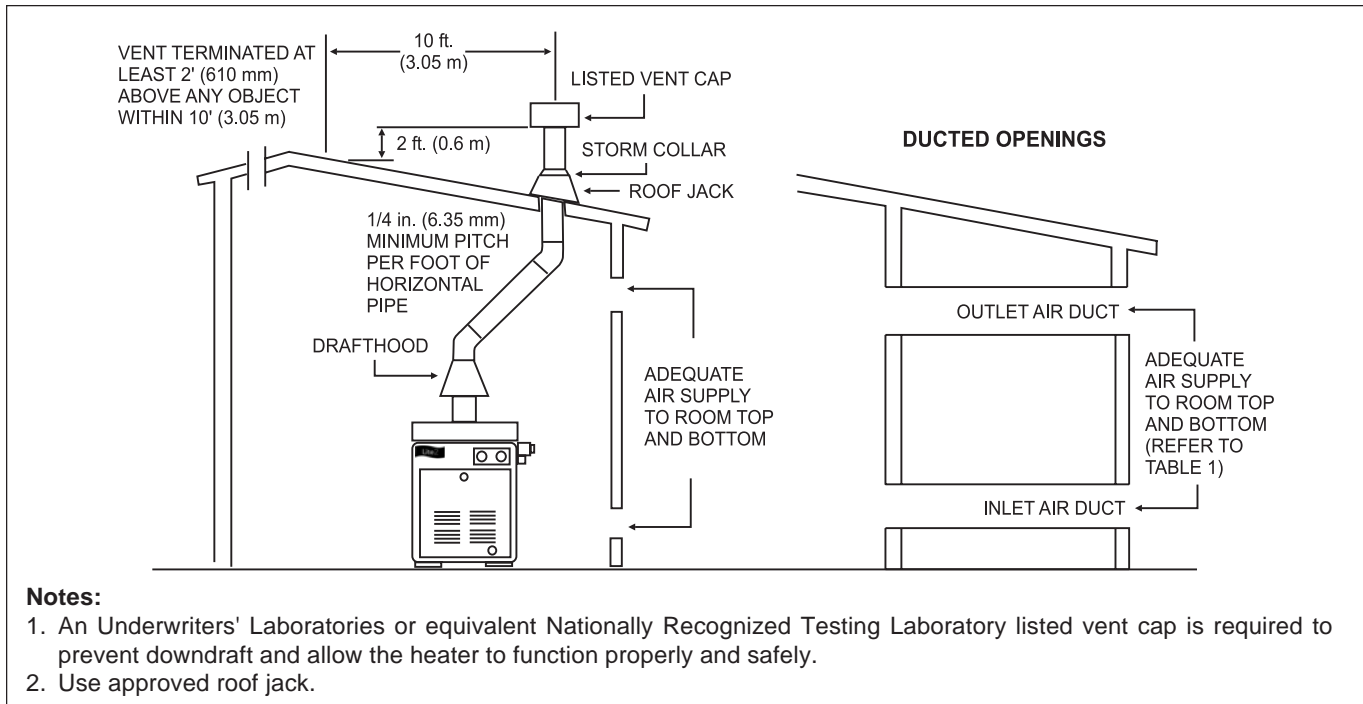

Figure 5. Indoor Installation Venting (USA), or Outdoor Shelter (Canada).
In general, these requirements specify that the room in which a heater is installed should be provided with two permanent air supply openings; one within 12 inches (305mm) of the ceiling, the other within 12 inches (305mm) of the floor. All indoor installations must have openings to outside air for combustion, ventilation, and dilution of flue gases from inside the building (see Figure 5 and Table 3). Water Pik Technologies does not recommend indoor installations that do not provide combustion air from outside the building.
Outside Air Supply: When combustion air is supplied directly through an outside wall, each opening should have a minimum free area of one square inch per 4,000 BTU/h (1.2kW) input of the total input rating of all appliances in the enclosed area. If air is provided through horizontal ducts, each opening and duct must provide one square inch of flow area for each 2000 BTU/h (0.6 kW). These requirements are summarized in Table 3. Note that the areas specified are net free areas and should be increased by 50 percent when the openings are covered by screens, louvers, grills or other protective covers (see Figure 5 and Table 3).
The draft hood outlet is to be connected to an unobstructed vent pipe of the same diameter, terminating outside the building. The vent must terminate at least two (2) feet (0.61 m) above the highest point of the roof or other object that is within ten (10) feet (3.05 m) of the vent termination. The vent pipe must have a listed vent cap which allows a full equivalent opening for flue products (see Figure 5). The top of the vent cap must be at least five feet in vertical height above the draft hood outlet.